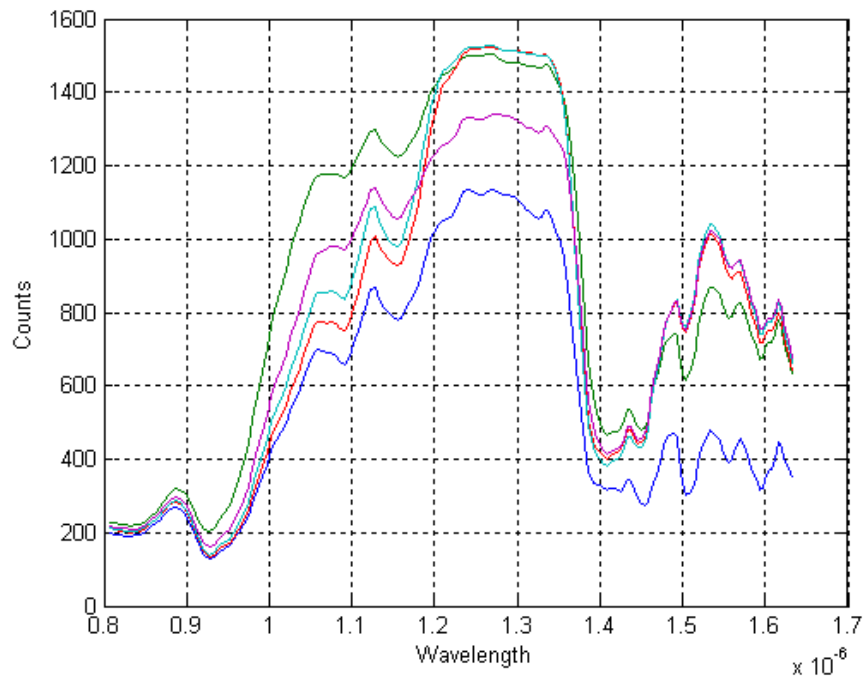

Figure 11: Data Acquired (successive spectra, smoothed features) from Argus 1000 on CanX-2 platform over Ontario, Canada, December 2008.
Oxygen can also be observed; however, a shorter integration time is required than for carbon-dioxide observation. Carbon Monoxide (CO) and Hydrogen Fluoride (HF) is not detected in spectra because of feature contamination by other absorbing gases (water vapor). There is some evidence of methane (CH₄) absorption at 1.63 μm ; however, it is contaminated with carbon-dioxide features. The extended range detector is recommended for the observation of methane (CH₄) features at 2.25 μm . The integrated intensity is highly correlated with surface albedo. Spectra contaminated by cloud cover show typically reduced gas absorption, a blackbody-like response and increased intensity. Results of spectra acquired over Canada in 2008 are shown below in Figure 11. We estimate that the peak radiance observed in this scene is equivalent to 0.04 $\text{Wm}^2 \text{sr}^{-1} \text{nm}^{-1}$.